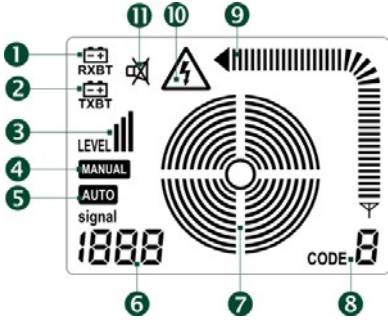

Fig. 5
4. Press START/STOP to start transmission. The concentric circles displayed on the LCD screen will spread gradually, the code of the transmitted signal appears on the lower right side of the display, and the strength is graphically displayed (see Fig 5).